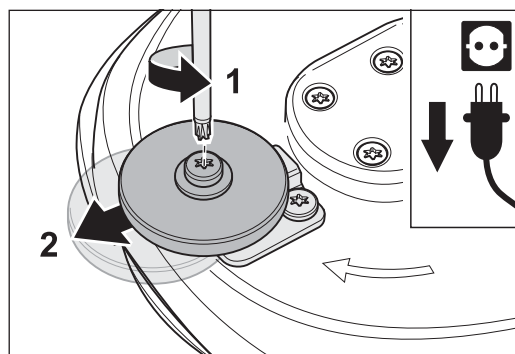

Fig. 71 Undo the screw (1) and push the wall-protecting roller (2).
- 2 Undo the screw in the middle of the wall-protecting roller with the universal spanner (fig. 71, 1) and push the wall-protecting roller into the front position (fig. 71, 2).
- 2 Use the universal spanner to undo the screw in the middle of the wall-protecting roller (fig. 71, 1).